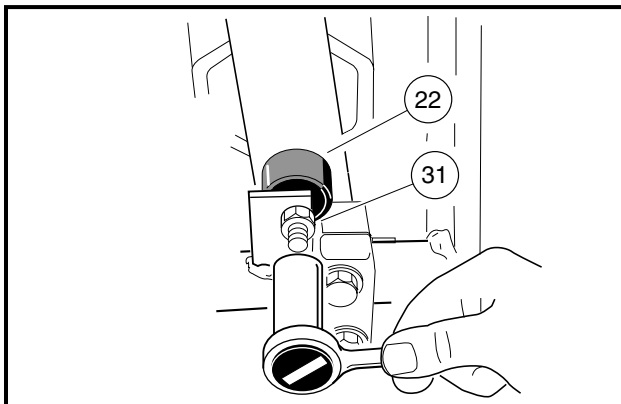
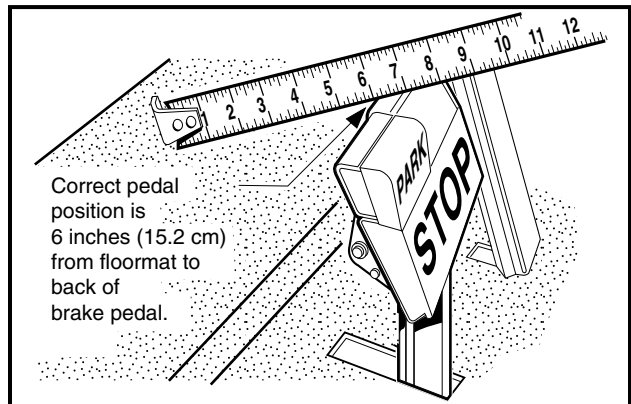

Figure 5-12 Brake Pedal Height Adjustment
Figure 5-13 Brake Pedal Height Measurement
- 2.4. Loosen the brake stop jam nut (31), then relieve pedal pressure on the stop by pushing down slightly on the pedal. Next, adjust the brake stop bumper (22) up or down (**Figure 5-12, Page 5-17**). Adjusting the bumper upward decreases distance between pedal and floorboard. Adjusting the bumper downward increases distance between pedal and floorboard. Proper brake pedal height is 6 inches (15.2 cm) (**Figure 5-13, Page 5-17**).
- 2.5. Tighten the jam nut (31) to 8 ft-lb (9.5 N·m) (**Figure 5-12, Page 5-17**).
- 2.5. Tighten the jam nut (31) to 8 ft-lb (9.5 N-m) (**Figure 5-12, Page 5-17**).